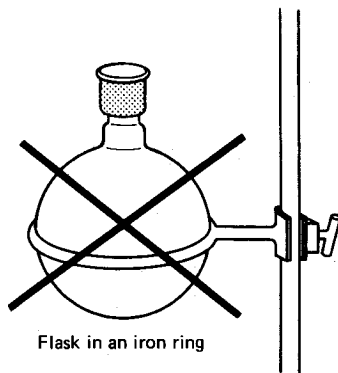

Fig. 60 Flask in the iron ring.
4. *Never* place the flask in the ring without a screen (Fig. 60). The iron ring heats up faster than the flask and the flask cracks in the nicest line around it you've ever seen. The bottom falls off and the material is all over your shoes.